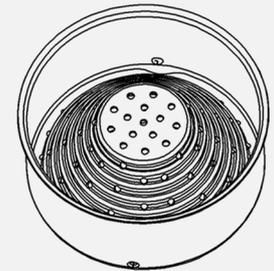

Figure 4
Note : Design (18) and filter (12) in the filter during my tight (12) has a locking system that prevents lifting up. Filter (12) and tighten removing the strainer (12) design (18), make sure it is seated (Figure 4).